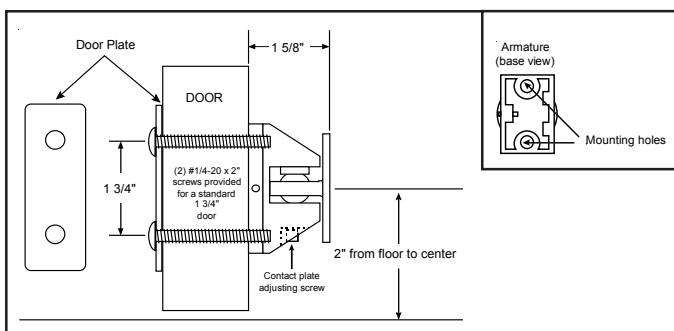

Figure 5. Thru-Bolt Mounting
- Using a 5/32" Allen wrench, turn the contact plate adjusting screw (Figures 5 and 6) counterclockwise to loosen the contact plate.
- Thru-bolt mounting (Figure 5).** Center punch the two holes (at the points marked in step 3) and drill 5/16" diameter through the door. Distance between the center points should equal 1 3/4".
Secure the armature assembly, with the contact plate adjust screw facing down, to the door as shown in Figure 5 using (2) #1/4-20 x 2" screws (supplied).
**NOTE:** For 2" doors, use (2) 1/4-20 x 2-1/4" bolts.